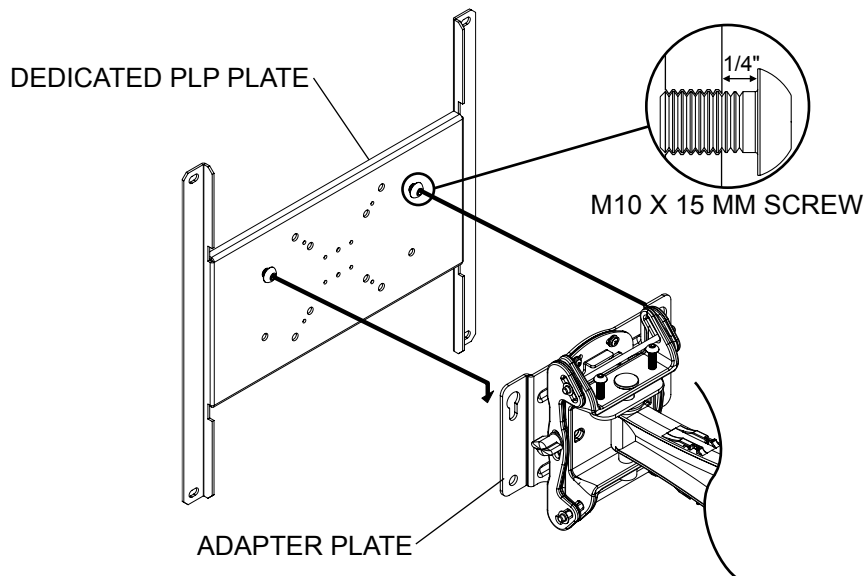

fig. 4.1
- 4** **NOTE:** Refer to PLP model instruction sheet for attachment of dedicated PLP plate to screen. Install two M10 x 15 mm screws (provided with dedicated PLP plate) into top two holes of dedicated PLP plate leaving 1/4" of exposed thread as shown in figure 4.1.